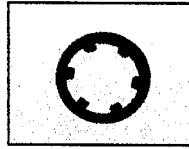

Figure 14 - Small Push-On Nuts
- b. Add push-on nuts (Items 6 and 14 – See Table 3) onto the bolts to keep them in place (See Figures 14 and 15), ensuring that the D-headed part of the bolt is rotated into the correct position. All the bolts will sit at the same height, so if one appears shorter it is probably not seated. Note, a 7/16" twelve point deep well socket works well for getting the push-on nuts into place.
- b. Add push-on nuts (Items 6 and 14 – See Table 3) onto the bolts to keep them in place (See Figures 14 and 15), ensuring that the D-headed part of the bolt is rotated into the correct position. All the bolts will sit the same height, so if one appears shorter it is probably not seated. Note, a 7/16" twelve point deep well socket works well for getting the push-on nuts into place.
- b. Add push-on nuts (Items 6 and 14 – See Table 3) (See Figures 14 and 15) onto all bolts. Ensure that the D-headed part of the bolt is rotated into the correct position. All the bolts will sit the same height, so if one appears shorter it is probably not seated. Note, a 7/16" twelve point deep well socket works well for pushing the retaining washers into place.